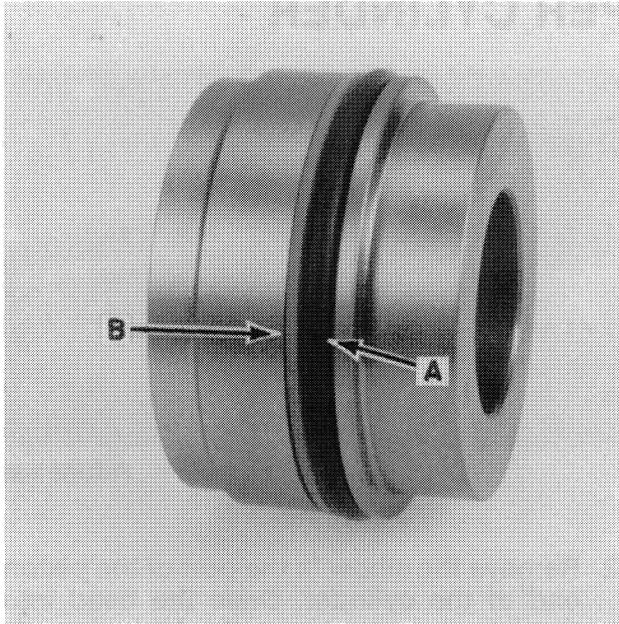

FIGURE 2-19
3. Install the new O ring, A, and back-up washer, B, as shown in Figure 2-19. The back-up washer should be nearest the head cap.